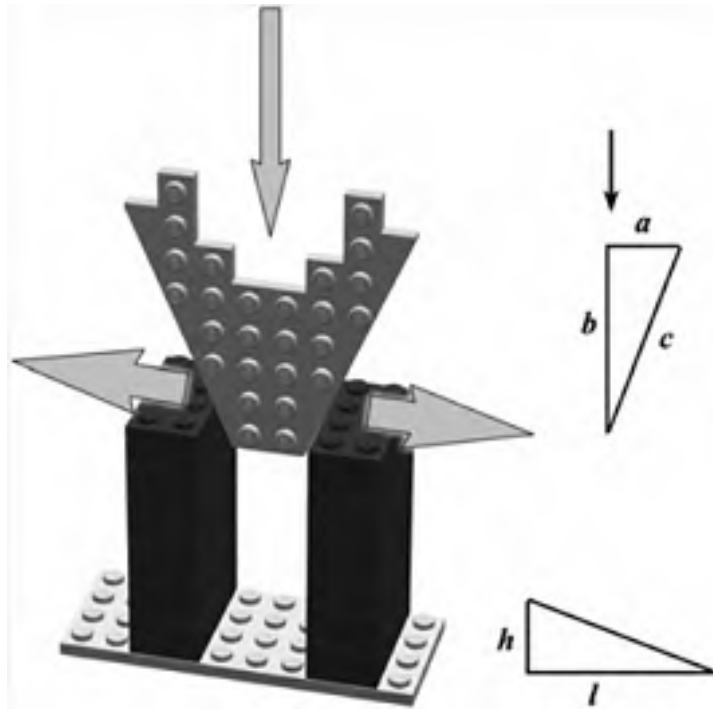

Fig. 3-8. A wedge for mechanical advantage.
A *wedge* is essentially an inclined plane in portable form (Fig. 3-8). Instead of gravity pushing, we apply our own force.
In the diagram in the corner of Fig. 3-8, you can see that the wedge is just a ramp on its side. The height of the ramp h is the width of the wedge and the length l is the length of the wedge. The mechanical advantage (MA) is defined as: